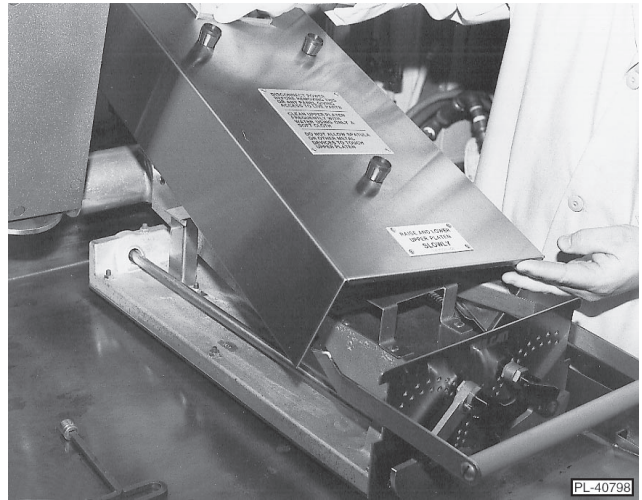

Fig. 8
- Reinstall platen cover (Fig. 8)